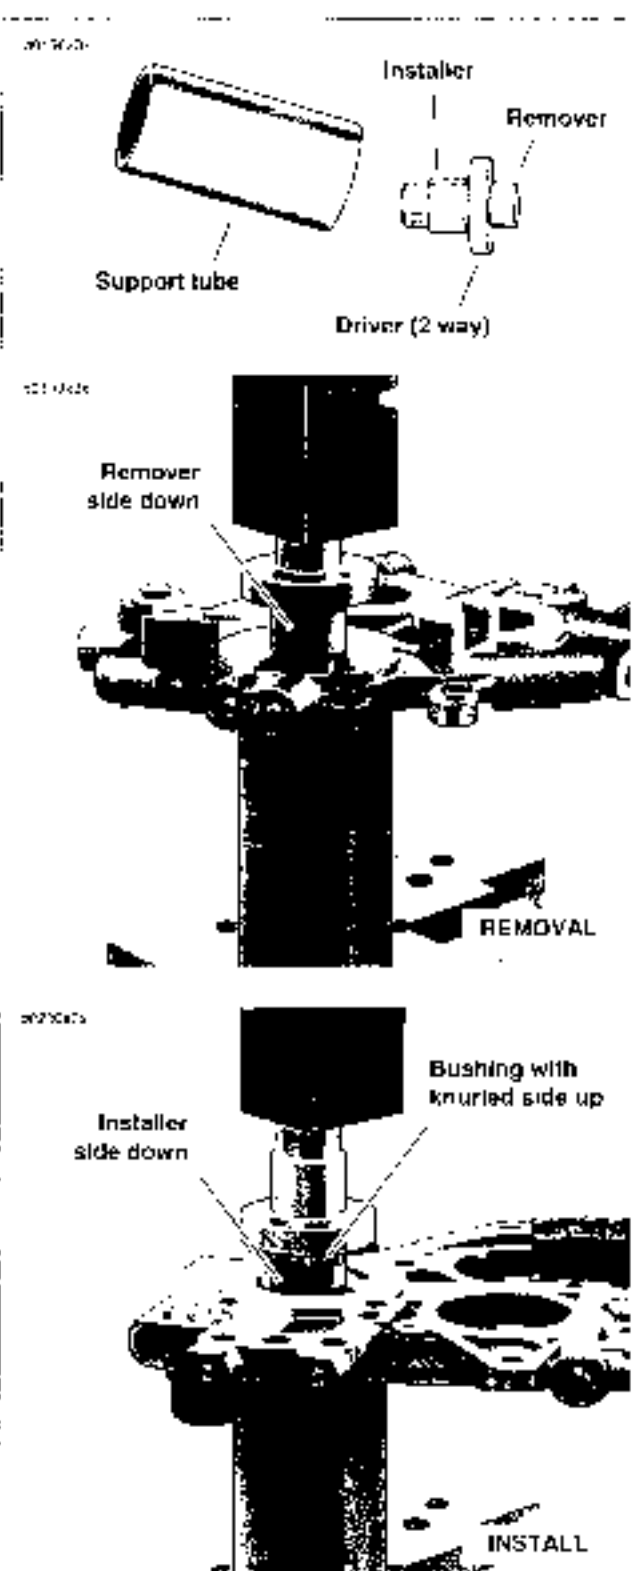

Figure 3-130. Crankshaft Bushing Remover/Installer (Part No. HD-42315)
1. See Figure 3-130. Obtain the CRANKSHAFT BUSHING REMOVER/INSTALLER (Part No. HD-42315).